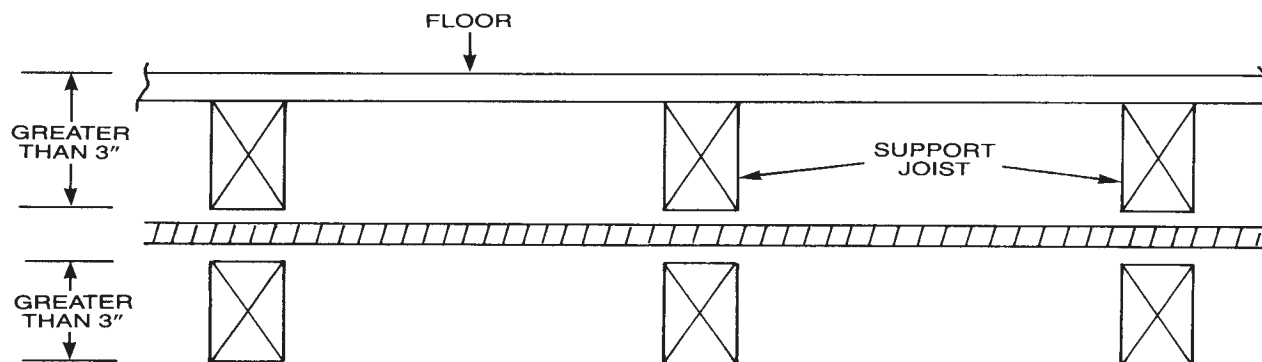

Figure: 4-10
- a. Where the tubing is supported more than 3 inches from any outside edge of a stud, joist, plate, etc. or wall surface. (Figure: 4-10).